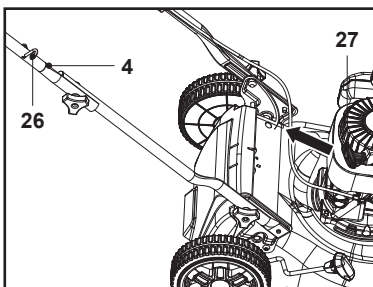

Fig. 11
2. Pull the recoil starter handle (27) lightly until you feel resistance then pull it rapidly. Do it repeatedly until the engine starts (Fig. 11).